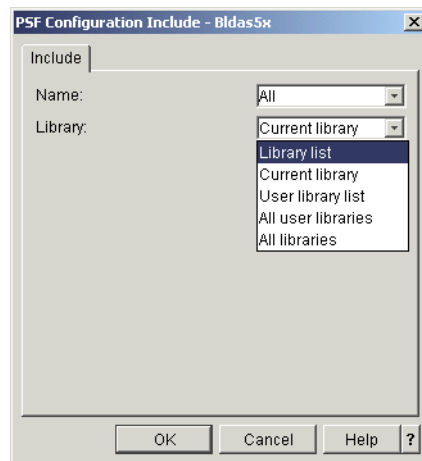

Figure 145. Include window
2. The Include window appears as shown in Figure 145. Click the pull-down list for Library. Choose one selection and then confirm it by clicking **OK**.